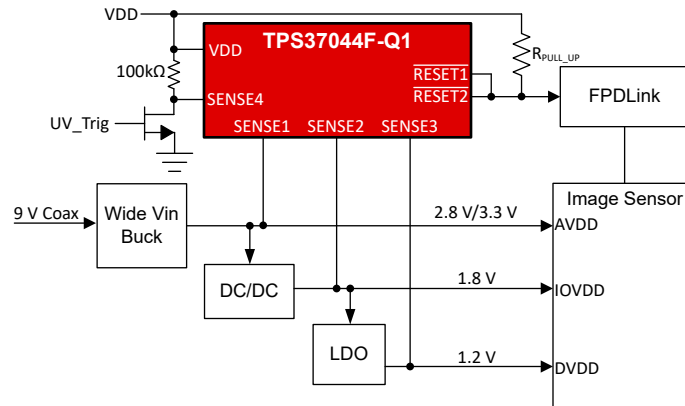

Figure 9-4. TPS37044F-Q1 Quad-Channel Monitoring With Manual Self-Test Option for Functional Safety
Figure 9-4 displays a self-test scheme where a manual self-test function can be implemented. Any SENSEx pin can be reserved and used to trigger a fault to be observed at the output, thus pre-checking the TPS3704-Q1 for fault detection. Because the TPS3704-Q1 is functional safety compliant, it helps elevate applications like the automotive ADAS camera achieve ISO 26262 requirements and automotive safety integrity levels. This example uses a TPS37044F-Q1, configured for separate undervoltage and overvoltage (UV/OV) outputs where the SENSE4 thresholds are set at 5.5 V for OV and 2 V for UV.
Figure 9-4 shows a self-test scheme where a manual self-test function can be implemented. SENSE4 has an overvoltage (OV) threshold that is set at 5.5 V and the undervoltage (UV) threshold set at 2 V. SENSE4 can be connected via a 100-kΩ resistor to VDD. The self-test setup gives the added benefit of a built-in overvoltage detector for the rail powering the TPS37044F-Q1. From a functional safety perspective, a voltage supervisor cannot be considered reliable if the supervisor is operating outside its recommended operated limits.